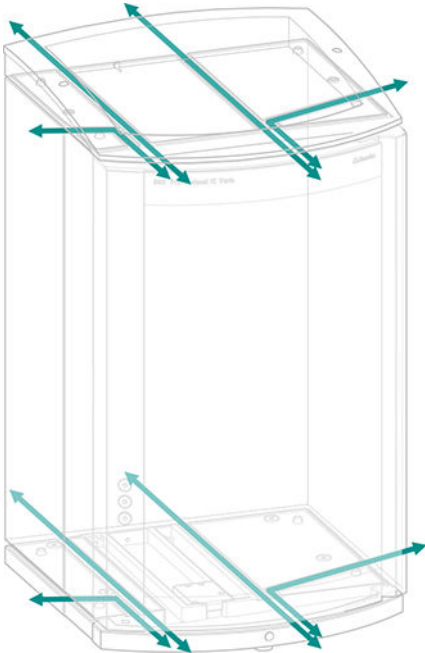

Figure 5 Ducts for capillaries
- Ducts between the instrument and the base tray as well as between the instrument and the bottle holder (*see figure 5, page 16*)